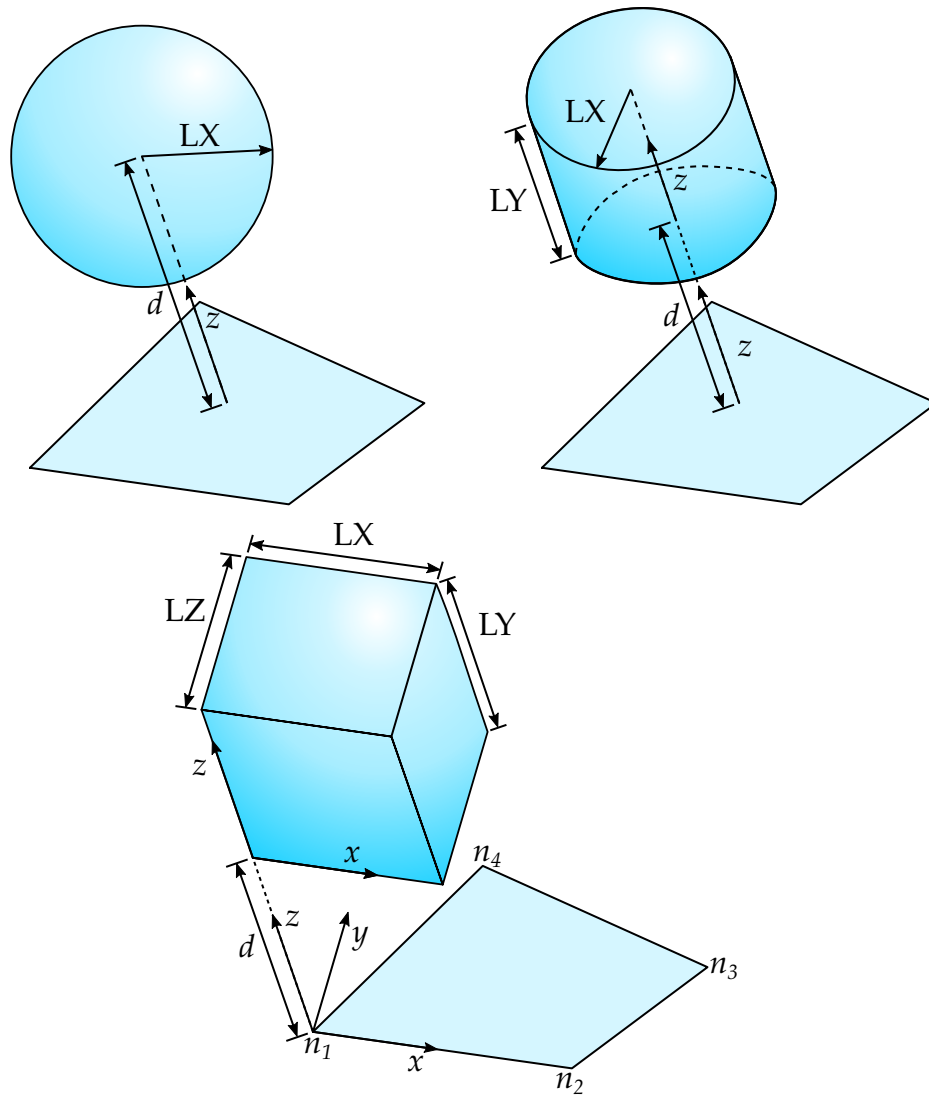

Figure 16-1. Sensor shapes
1. **Sensor Shape.** The sensor can be three different shapes, a sphere, cylinder, or rectangle, depending on the length fields defined (LX, LY, and LZ). See Figure 16-1.
- 2. **OFFSET.** Each segment has a sensor. The distance between the segment and the sensor is defined by OFFSET (d in Figure 16-1) in the normal direction of the segment. This distance is constant, that is, the sensor moves along with the segment.